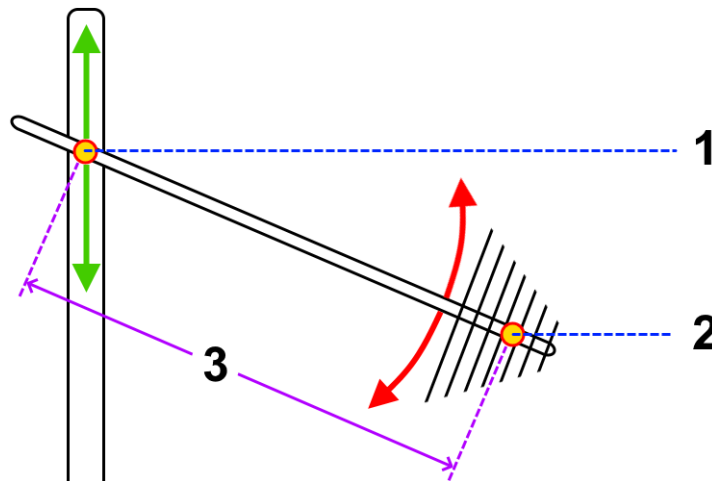

Figure 4-47: Reference points in an automated tilt-mast setup
Typical automated test systems use a motorized tilt mast as in Figure 4-47, for example in the optional substitution measurement step (see Flow Schema) in RSE tests. If your test system uses such an automated tilt mast, calculating the tilt angle at the controller and the free-space attenuation between EUT and antenna requires the following input information:
- *Measurement distance* from the EUT to the antenna reference point in Figure 4-47. Must be entered by the system operator, see "Measurement distance".
- It is in the **mast** - see **1** in Figure 4-47
- It is in the **antenna** - see **2** in Figure 4-47